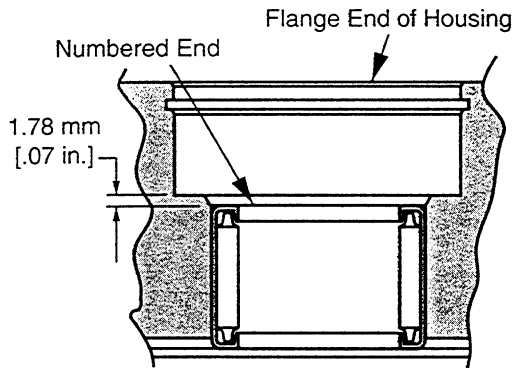

Figure 1-4
- Check the bearing (press fit) in housing. If needles remain in cage, move freely, and setting at the dimension shown in figure 1-4, removal not required.
- 2** If necessary, Press new bearing in housing to dimension shown in figure 1-4 with the numbered end of bearing outward.